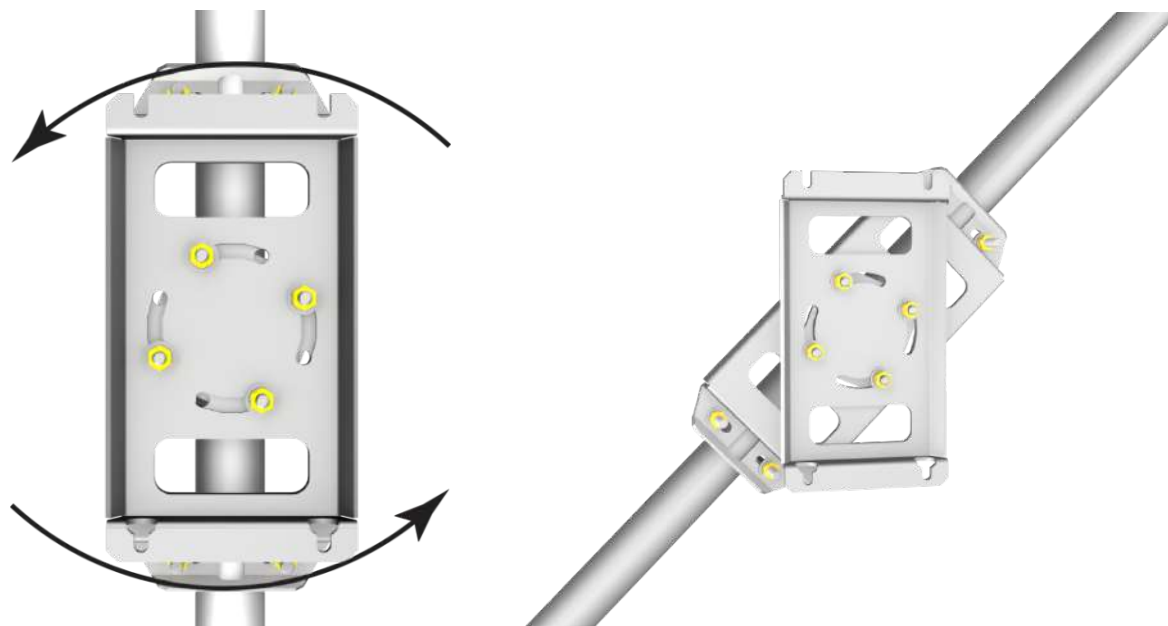

FIGURE 6-2. EC100-enclosure mounting bracket mounted on a vertical mast (left) and a tripod leg (right)
7. Attach the EC100 enclosure to the mast, tripod leg, or other part of the mounting structure. To do this, attach the EC100-enclosure mounting bracket (pn 26604) to the pipe by loosely tightening the u-bolts around the pipe. The u-bolts are found in the mesh pocket inside the EC100 enclosure. If the pipe does not run vertically (for example, if the enclosure is being attached to a leg of a tripod), rotate the bracket to the side of the pipe. The enclosure must hang upright. Make angle adjustments as needed by loosening the four nuts and rotating the bracket plates relative to one another. If the necessary angle cannot be achieved in the given orientation, the four nuts may be removed and the top plate indexed by 90° to allow the bracket to travel in the other direction (see FIGURE 6-2). Once adjusted, tighten all the nuts. Finally, attach the EC100 enclosure to the bracket by loosening the bolts on the back of the enclosure, hanging the enclosure on the mounting bracket (it should slide into place and be able to